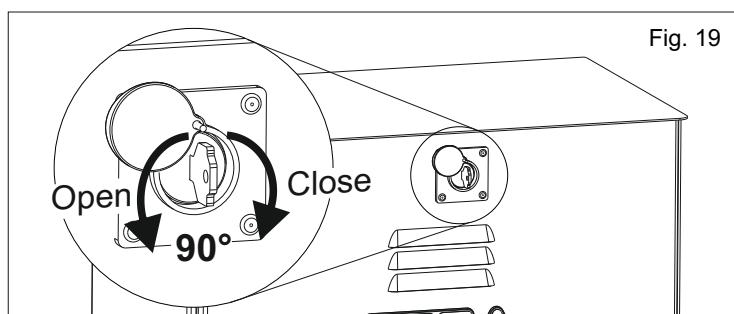

Fig. 19
- Open the lock cover, insert the key and turn it 90° anti-clockwise (Fig. 19).
- Reposition the carter and close it by turning the key 90° clockwise (Fig. 19).